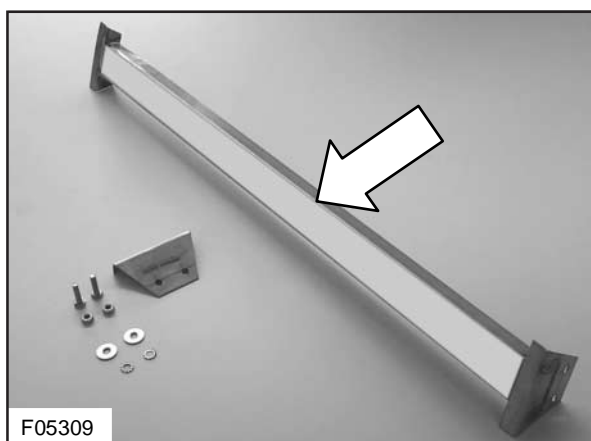

Figure 1 : Reinforcement brace with two-sided self-adhesive tape for aisle section above front axle
1. Cut a length of approximately 24 inches (600 mm) of two-sided self-adhesive tape VH 660193602 and stick it to the top of reinforcement brace VH10726316 (see Figure 1). Remove the protective strip on the tape.